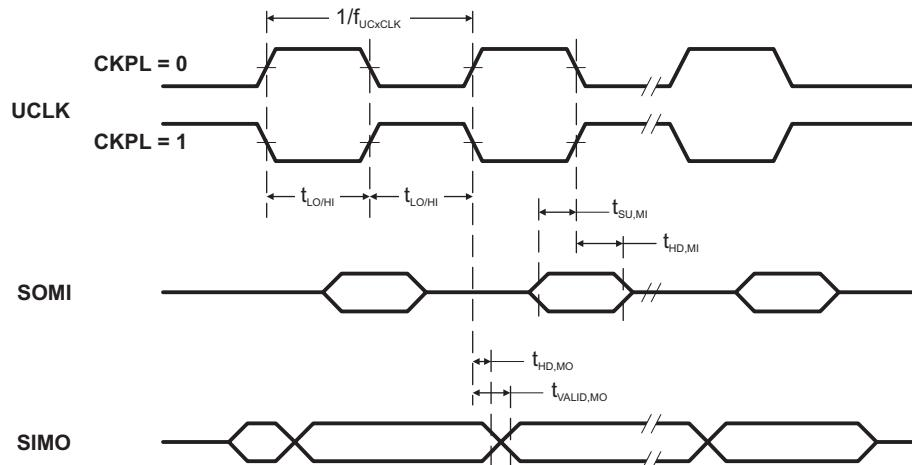
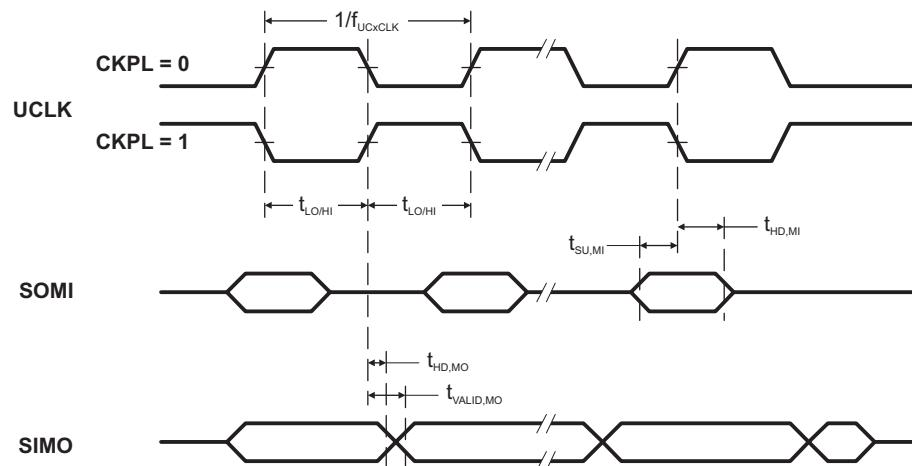

Figure 7. SPI Master Mode, $\text{CKPH} = 0$
Figure 8. SPI Master Mode, $\text{CKPH} = 1$
(see Note ⁽¹⁾, Figure 7 and Figure 8)
- (2) Specifies the time to drive the next valid data to the SIMO output after the output changing UCLK clock edge. See the timing diagrams in Figure 7 and Figure 8.
- (3) Specifies how long data on the SIMO output is valid after the output changing UCLK clock edge. Negative values indicate that the data on the SIMO output can become invalid before the output changing clock edge observed on UCLK. See the timing diagrams in Figure 7 and Figure 8.
(2) Specifies the time to drive the next valid data to the SOMI output after the output changing UCLK clock edge. See the timing diagrams in Figure 7 and Figure 8.
(3) Specifies how long data on the SOMI output is valid after the output changing UCLK clock edge. See the timing diagrams in Figure 7 and Figure 8.